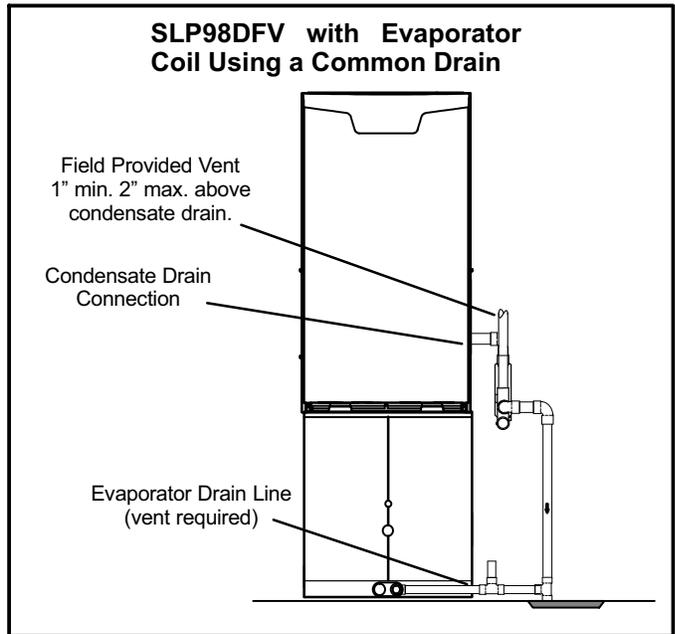
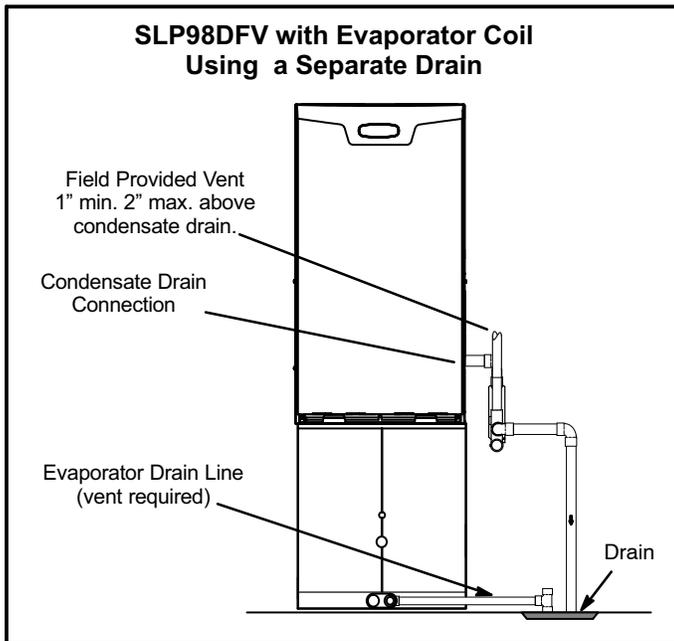

FIGURE 42
FIGURE 41
- 5 - Figure 41 shows the furnace and evaporator coil using a separate drain. If necessary, the condensate line from the furnace and evaporator coil can drain together. See figures 42 and 43. The field provided vent must be a minimum 1" to a maximum 2" length above the condensate drain outlet connection.